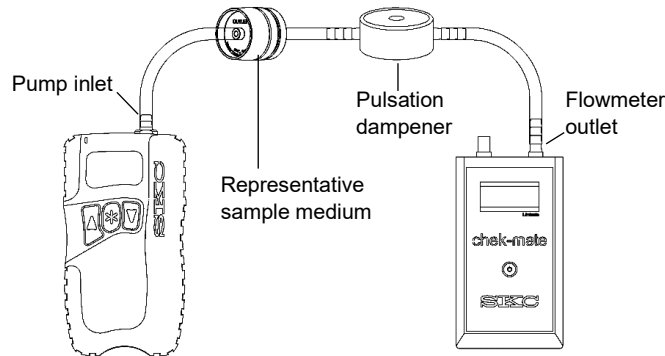

Figure 3. High Flow Rate Verification Train
- b. **For high flow model**, use flexible 3/8-inch ID tubing and place Pulsation Dampener Cat. No. 375-150 in line between the flowmeter outlet and representative sample medium inlet. If required by the sampler, use a calibration adapter. See Figure 3.